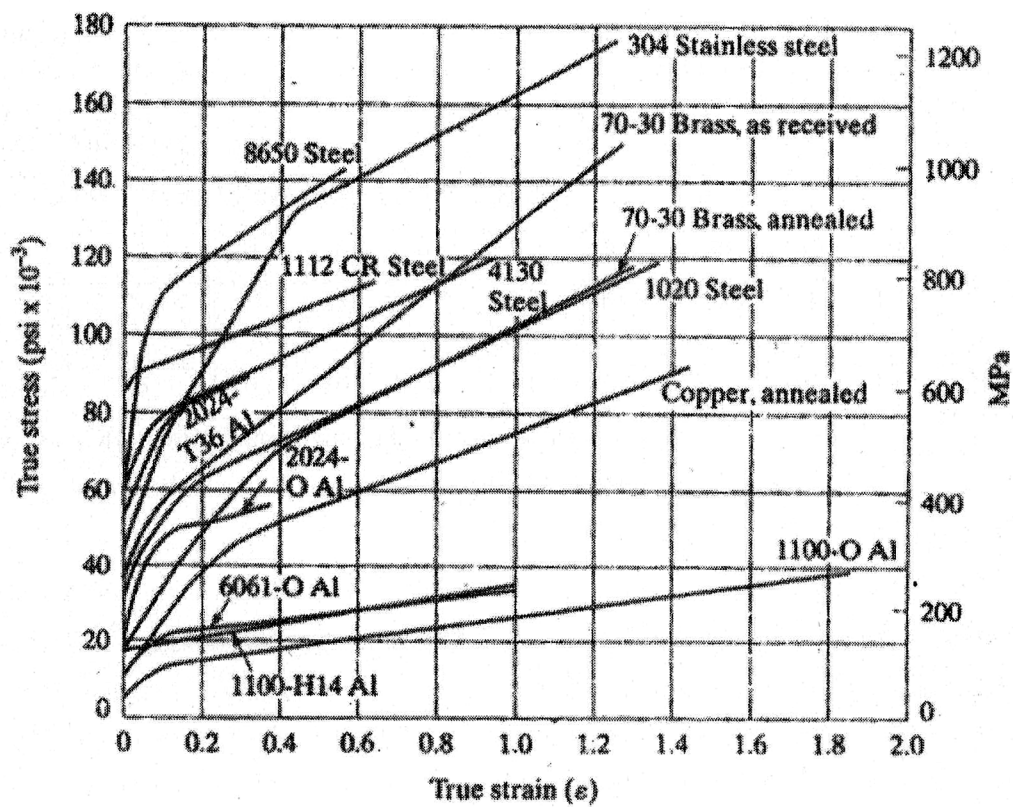

Fig.1. True stress -vs- True strain curve, in connection with question 3 (c).
c) A solid cylindrical slug of 1020 steel is 150 mm in diameter and 100 mm high. The height is reduced to 50% by cold, open die forging operation. Assuming a coefficient of friction of 0.2 calculate the forging force needed at the end of stroke. True stress vs. True strain curve is given in Fig.1.